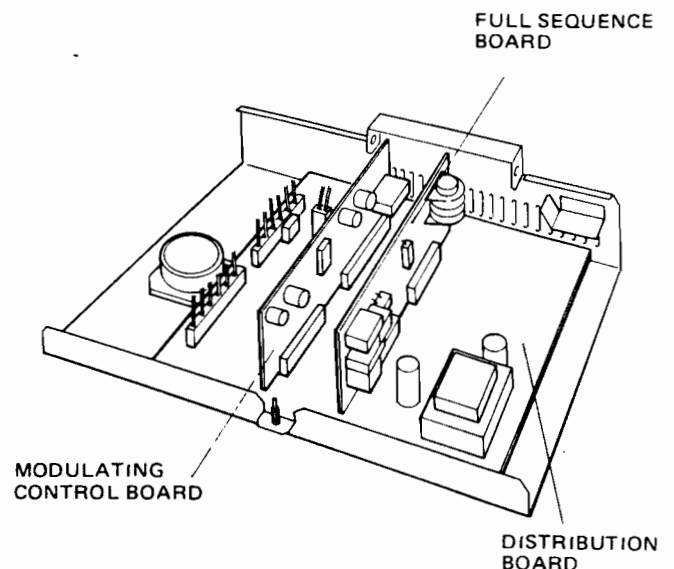

FIG. 38 ELECTRONIC CONTROL BOARDS
25. ELECTRONIC CONTROLS (see Fig. 38)
(see Fig. 38)